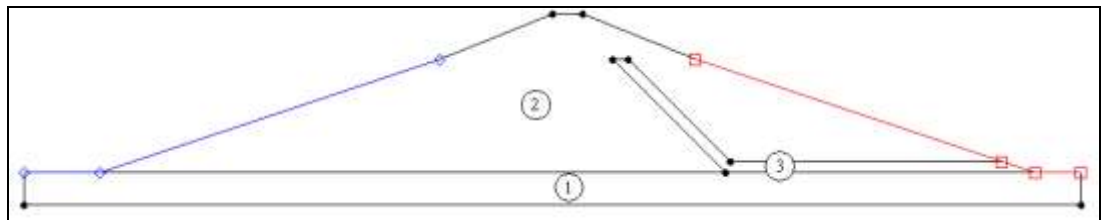

Figure 6 Polygons and their material IDs
2. Double-click one of the three arcs highlighted in Figure 6 below.
2. Double-click on the embankment which is zone 2 in Figure 6 below.